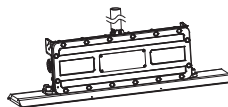

Figure 17
4. Lock the driver box cover with screws(Figure 17).